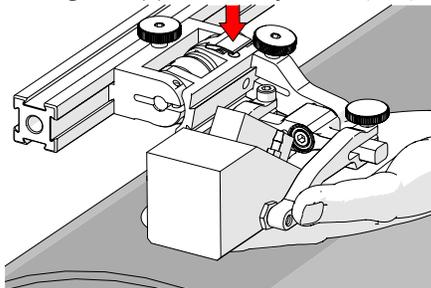

Fig. 157 - Lift and press latch button
3. Lift probe slightly and press latch button (Fig. 157) to apply spring pressure to the wedge.